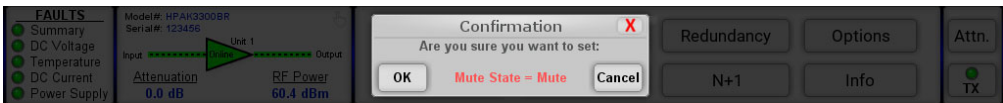

Figure 10: Action Button > Mute Setting
Tapping the Mute (TX) button results in a confirmation window (unless prompts are disabled in the **Options > Front Panel > Confirm Prompt** menu) to change the mute state of the amplifier. Tap the OK button to change the mute state or the Cancel button to keep the current mute state. See Figure 10.